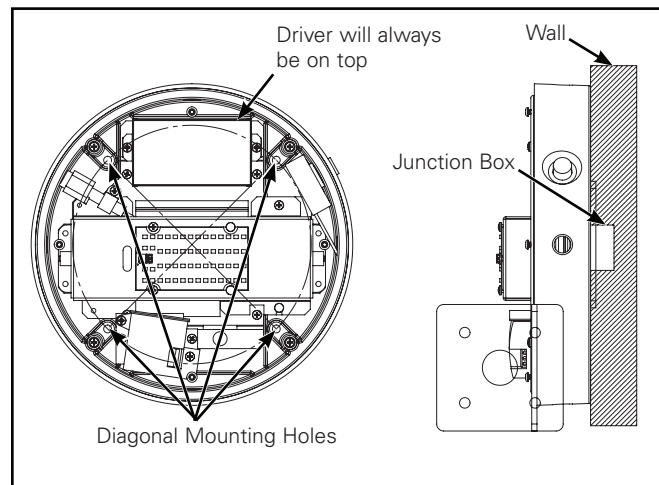

Figure 7. Shallow Cast Unit Installation
4. Center cast housing on flat smooth ceiling or wall over junction box. Use cast housing as a template to layout fastener locations. (Figure 7)
7. Align fixture without lens to four mount holes. For wall mounted, note the driver will be oriented at the top as shown in (Figure 7). Tighten all four mounting fasteners sufficiently to compress housing into gasket.